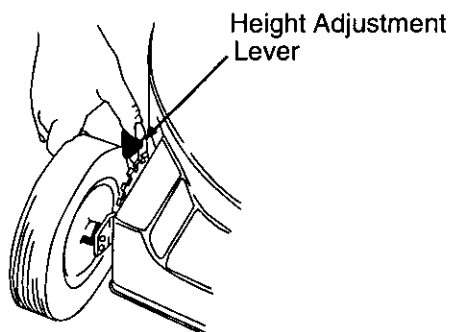

FIGURE 12
- Simply depress the lever towards wheel and move lever assembly to desired position. See Figure 12.